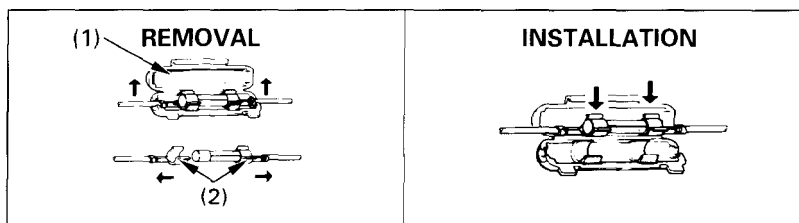

Fig. 4-20 (1) Fuse holder
2. Open the fuse holder (Fig. 4-20) and lift out the fuse with the clips (2).